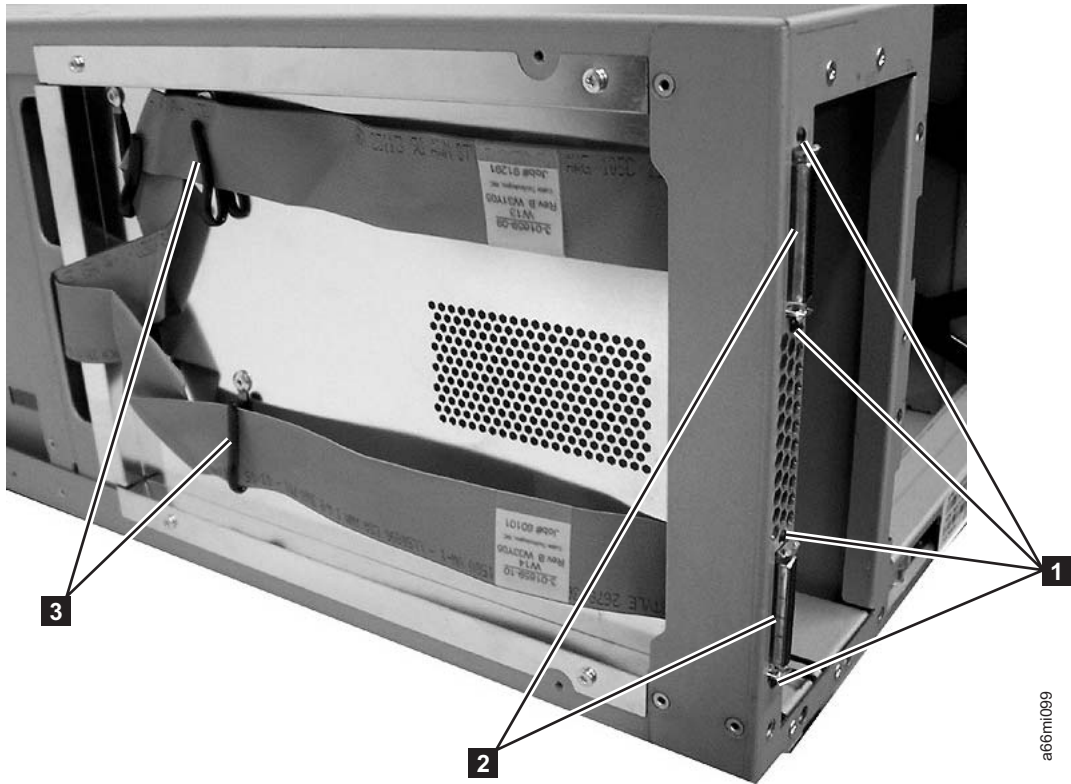

Figure 8-78. D-shell connectors and flat cables, side cover removed
- c. Remove the terminator(s) from the 2 D-shell connectors (**2** in Figure 8-78 on page 8-78) on the back of the control module, if necessary.
- d. Remove the 4 T6 Torx screws (**1** in Figure 8-78) holding the 2 D-shell connectors (**2** in Figure 8-78) on the back of the control module. Carefully remove the 2 flat cables (**3** in Figure 8-78) and D-shell connectors from under the cable retainers on the side of the enclosure.